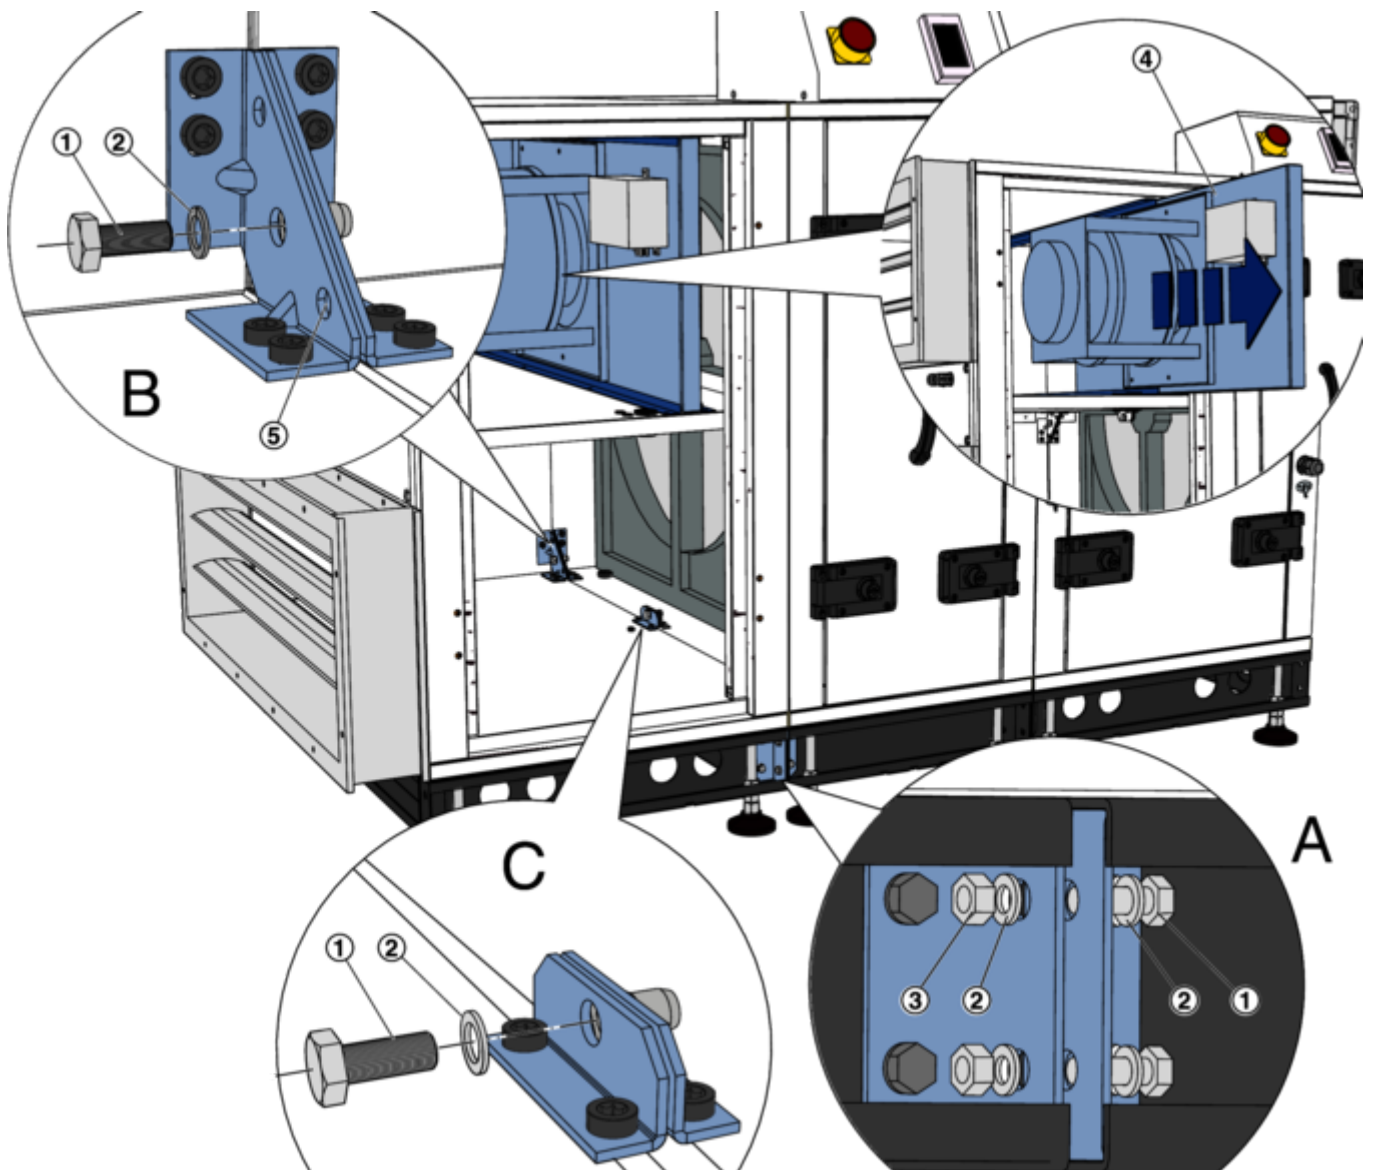

Fig. 16: Connecting AHU casing units
If the entire device is too large for transport to the installation site, it can be disassembled at the separation points. The separation points can be seen on the screw connections of the base frames (Fig. 16 /A). The disassembly of the AHU into individual components is carried out in reverse order to the assembly description ↪ Chapter 4.4.2 'Assembling AHU casing units' on page 25 .
- End faces of the base frames (Fig. 16 /A)
- Gusset plates, in each corner (Fig. 16 /B)
- Bracket (Fig. 16 /C)
- Size R/P015 to R/P050 - To reach the connection points, pull out the fan mounting plate completely (Fig. 16 /4). Before pulling out, disconnect all necessary cables at the plug connections!